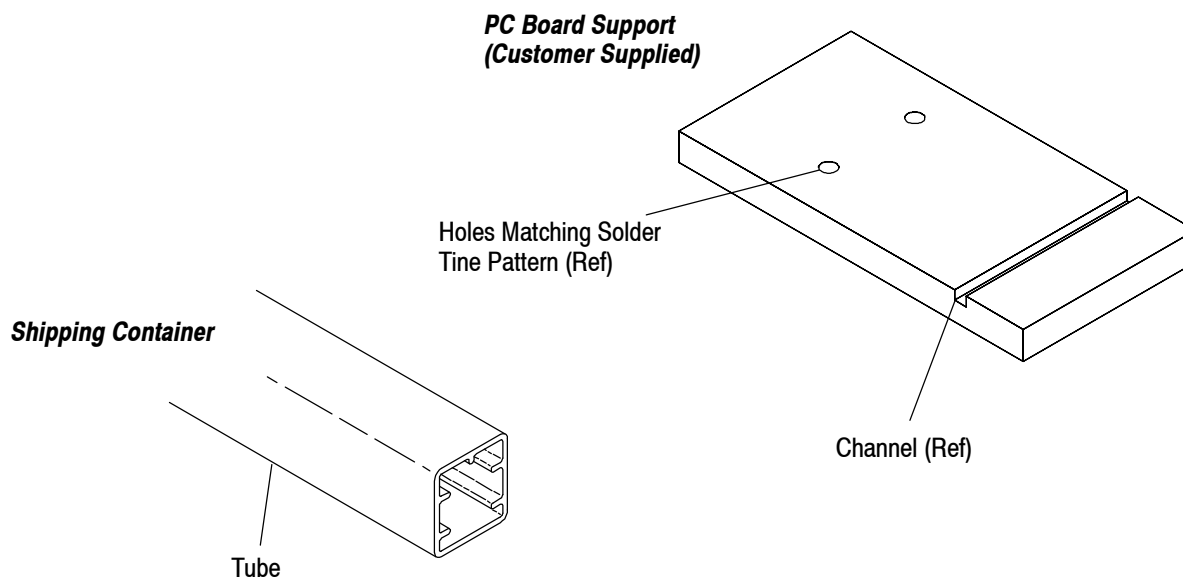

Figure 10
5. TOOLING (Figure 10)
The connector should be removed from the shipping container only when ready for installation. A pc board support is recommended when installing connectors to prevent deformation of the solder tines. It may have a channel or holes to match the solder tine pattern of the connector. The connector should not be removed from the shipping container until the pc board and support are ready for installation. See Figure 10.